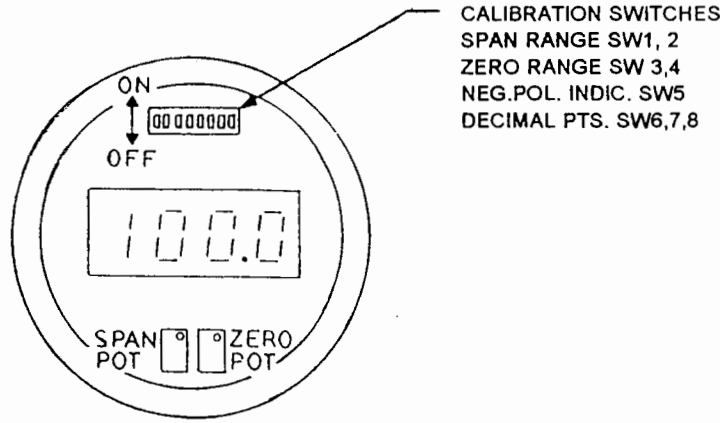

FIG. 4 LOCATION OF CALIBRATION SWITCHES AND POTS ON TOP P.C. BOARD
To calibrate the 18-SLPI-1V, remove the front cover and label to expose the calibrating switches, and the span and zero pots, located on the top PC board (Fig. 4). Input a 4 to 20 mA signal and calibrate the indicator as follows:
1. Set the calibrating switches (FIG. 4) for the desired span and offset ranges as described in the preceding section.